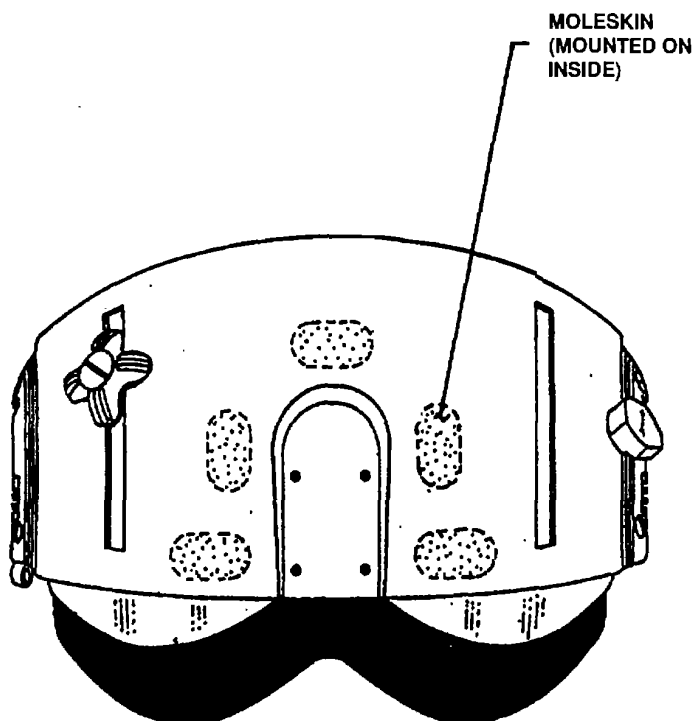

Figure 3-11. Dual visor Assembly
2. Ensure that moleskin guards have been installed on underside of visor housing as shown in Figure 3-11.